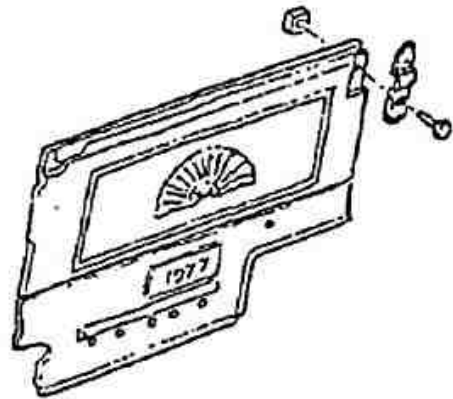

FIG. 14 INSTALL DAMPER RETAINER
- Replace the damper handle. Close the damper (handle pointing down, damper vertical). Hold the 1/4-20 nut behind the upper fireback while securing the damper retainer into place (Fig. 14).